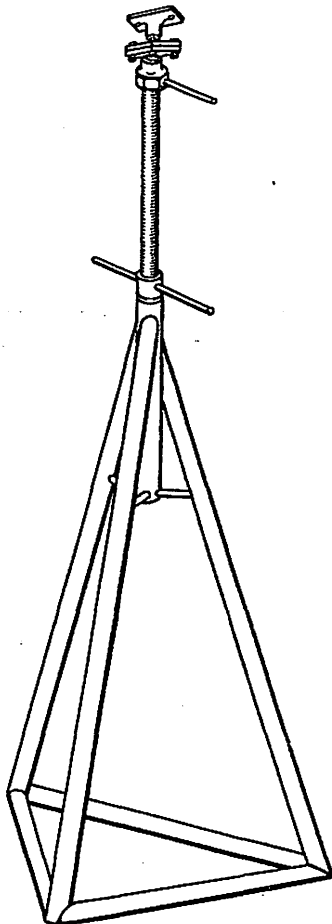

Figure 2-15. Tripod Wing Stand
g. Install a tripod wing jack (figure 2-15) or a tall aircraft jack at the mooring lug location on the outer wing panel. Remove the mooring lug and install the jack in its place. Adjust the wing stand so the weight of the wing is resting on it.